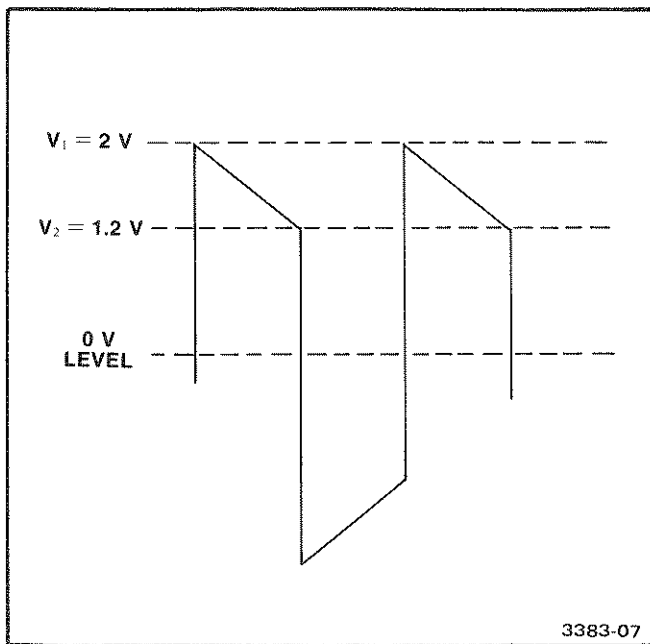

Fig. 2-6. Typical low frequency response curve.
2. Slowly reduce the square-wave frequency and adjust the oscilloscope (amplifier) controls to display a signal similar to Fig. 2-6.
For example; if the applied frequency,  $F_a$ , is 10 Hz and the amplitude values shown in Fig. 2-6 are used, the lower cut-off frequency is calculated to be about 1.6 Hz.